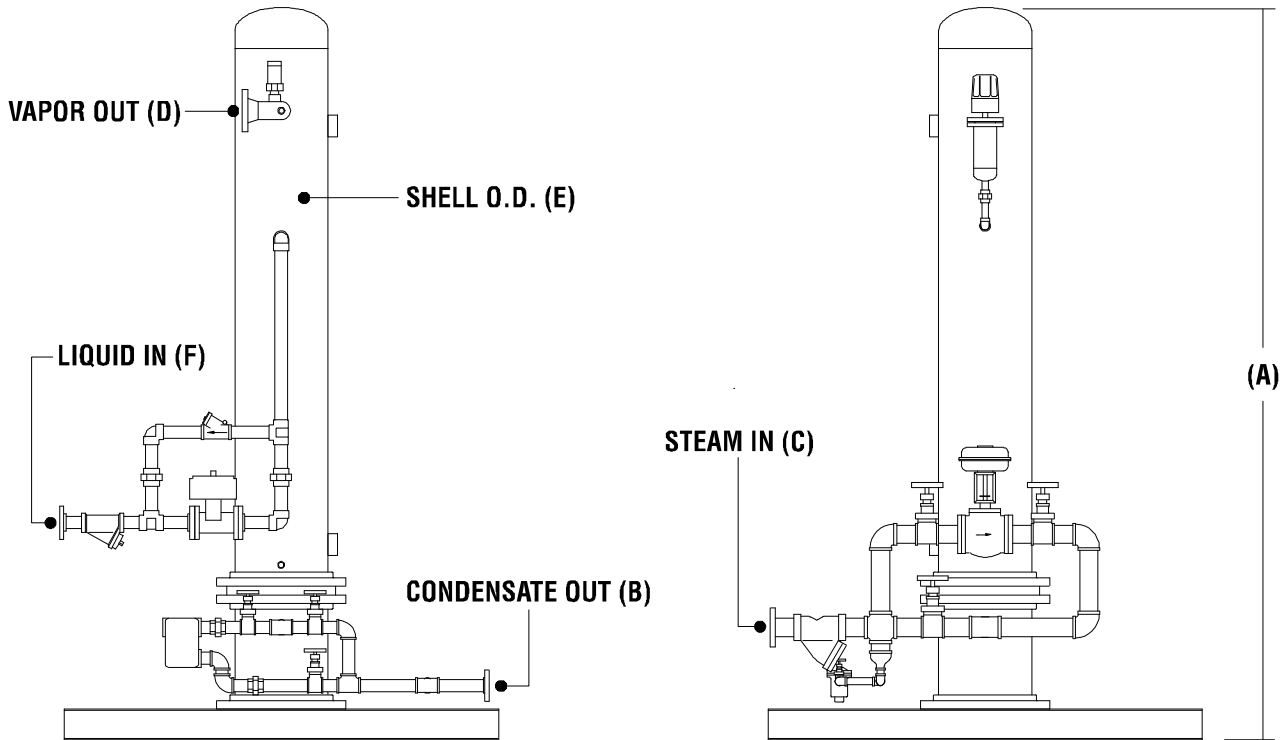

Figure 2-1 - VS Series Physical Specifications
2.03 Figure 2-1 callouts are for the liquid inlet, vapor outlet, steam inlet and condensate outlet. Associated Table 2-1 provides a cross reference for each callout, identifying each as to dimension.